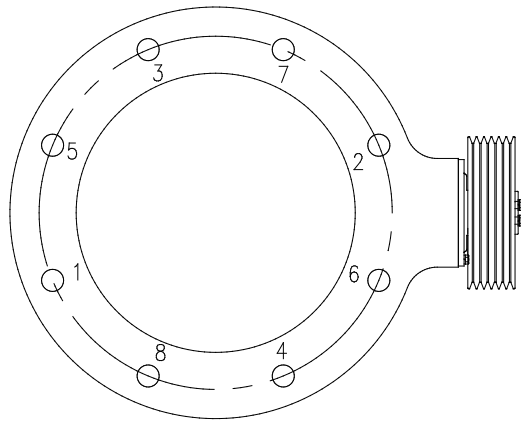

Fig. 6.13.1
2. Tighten the bolts in the sequence shown in (Fig. 6.13.1) so that the clearance reduces by $\frac{1}{3} \Delta t$. Use a taper gauge to check the clearance.